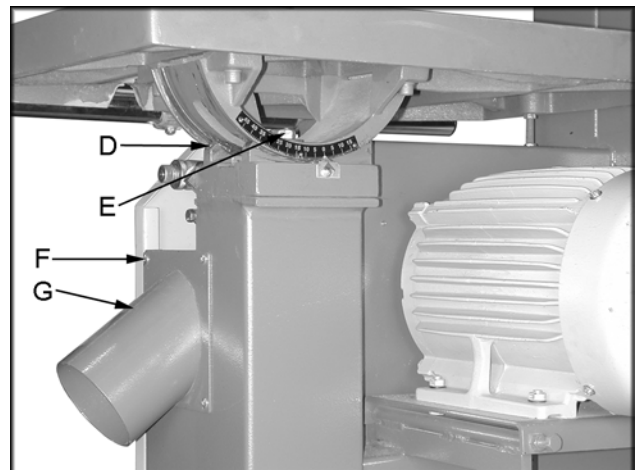

Figure 3
6. Make sure the trunnions are lined up properly (D, Figure 3) and secure the table by threading the bolt (E, Figure 3) into the threaded hole in frame trunnion.
Mount dust chute (G, Figure 3) with the provided screws (F, Figure 3) to the bandsaw frame.